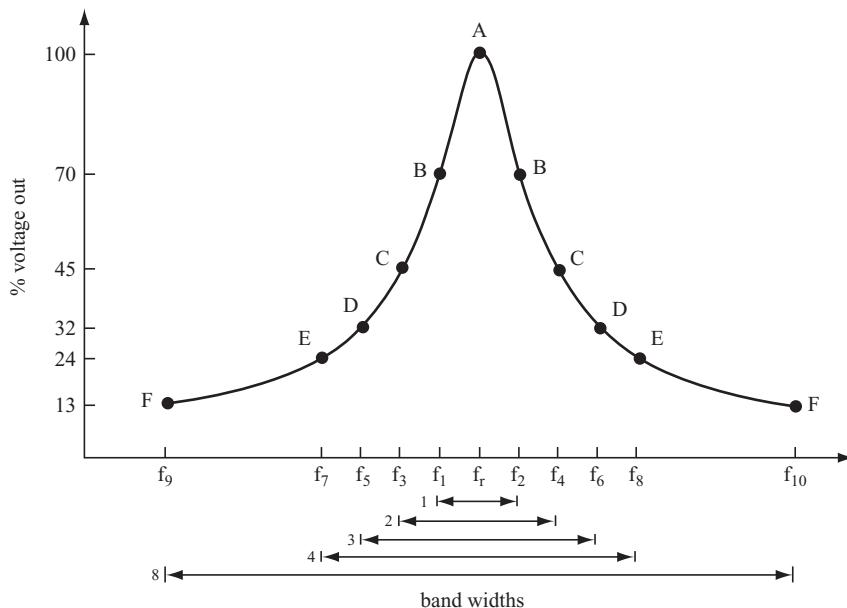

FIGURE 7.41
1. Assume the peak output voltage V_p at the resonant frequency f_r to be 100 percent. This is point A on the curve shown in Figure 7.41.
2. The output voltage at f_1 and f_2 is 0.707 of 100 percent. On the graph, these are the two points labeled B in Figure 7.41. Note that $f_2 - f_1 = \text{BW}$. Therefore, at half a bandwidth above and below f_r , the output is 70.7 percent of V_p .
3. At f_3 and f_4 (the two points labeled C in Figure 7.41), the output voltage is 44.7 percent of V_p . Note that $f_4 - f_3 = 2 \text{ BW}$. Therefore, at 1 bandwidths above and below f_r , the output is 44.7 percent of maximum.
4. At f_5 and f_6 (the two points labeled D in Figure 7.41), the output voltage is 32 percent of V_p . Note that $f_6 - f_5 = 3 \text{ BW}$. Therefore, at 1.5 bandwidths above and below f_r , the output is 32 percent of maximum.
5. At f_7 and f_8 (the two points labeled E in Figure 7.41), the output voltage is 24 percent of V_p . Note that $f_8 - f_7 = 4 \text{ BW}$. Therefore, at 2 bandwidths above and below f_r , the output is 24 percent of maximum.
6. At f_{10} and f_9 (the two points labeled F in Figure 7.41), the output is 13 percent of V_p . Note that $f_{10} - f_9 = 8 \text{ BW}$. Therefore, at 4 bandwidths above and below f_r , the output is 13 percent of maximum.
28 Now, calculate the frequencies that correspond with each percentage of the peak output voltage listed in steps 1 through 6 of problem 27. (Refer to the graph in Figure 7.41 as needed.)